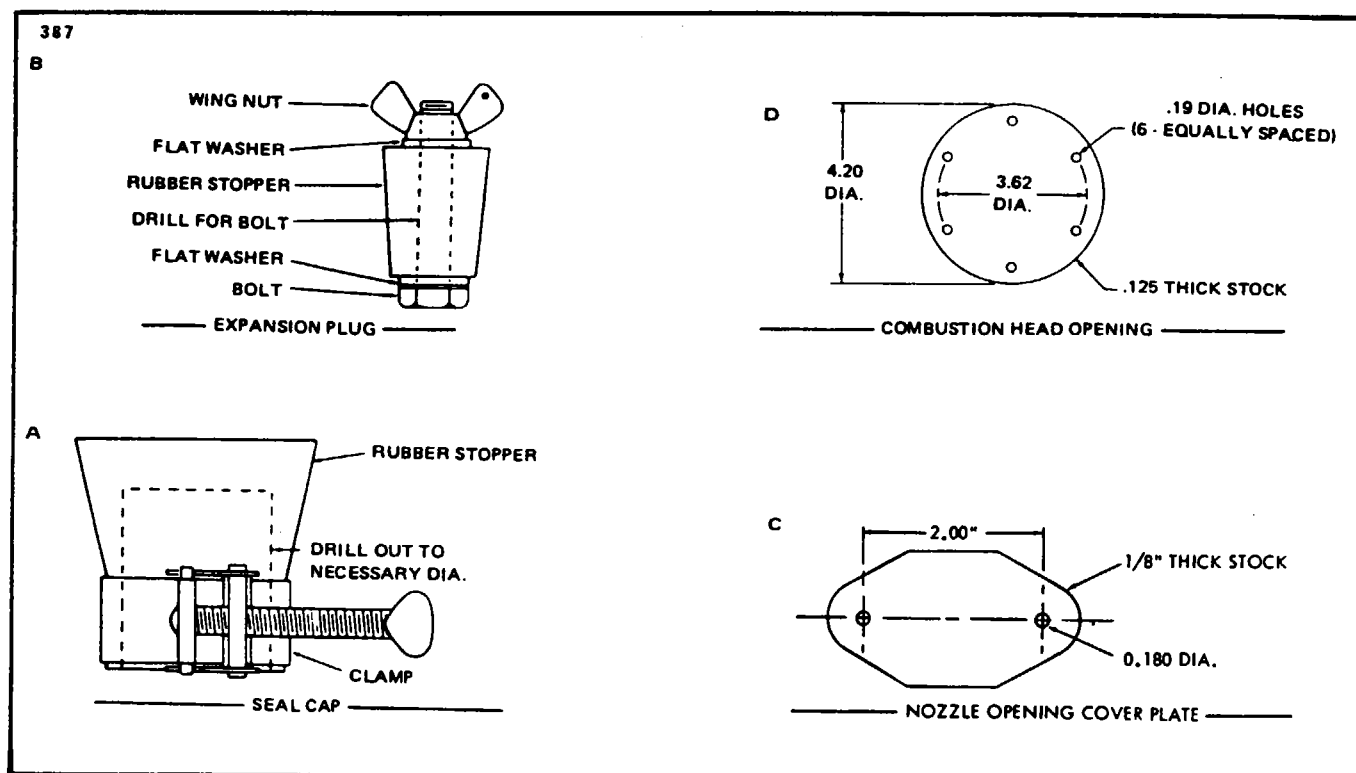

Figure 13-24. Suggested Design for Seal Plate, Plugs and Caps for Combustion Tube Leakage Test
b. Test the combustion tube assembly (19) for leaks as follows:
1. Fashion a sealing plate from approximately .125 inch thick flat stock to seal the nozzle holder or combustion head opening in the combustion tube assembly. (Refer to Figure 13-24.) Use a rubber gasket under the plate and attach the plate with screws.
2. Make up seals for all remaining openings, except the one used to connect the air pressure source. (Refer to Figure 13-24.) Use rubber stoppers as shown. The combustion air inlet tube can be sealed best with a drilled stopper and clamp. Other openings should be sealed with expansion plugs. The seal used in the exhaust tube should be formed so that it will not deform the air pressure switch tube which protrudes into the exhaust.